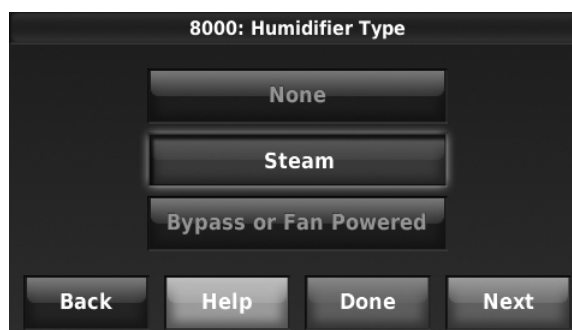

Fig. 208.
1. Select the Humidifier Type at ISU 8000. See Fig. 208.